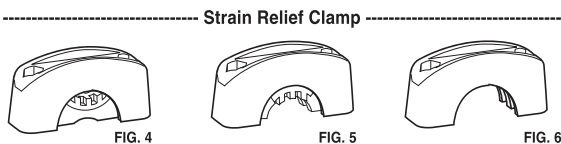

FIG. 4
- For cord sizes 0.37 to 0.59 - in diameter (including flat cables): Use Strain Relief Clamp with insert oriented as shown in Fig. 4.